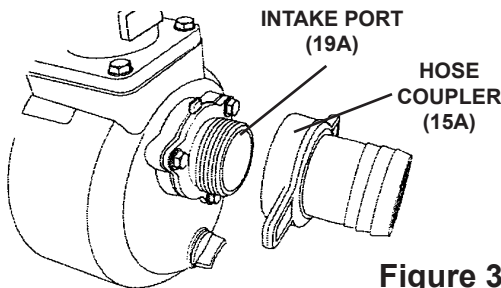

Figure 3
2. Screw Hose Coupler (15A) clockwise onto Intake Port (19A) until fastened securely. See Figure 3, below.